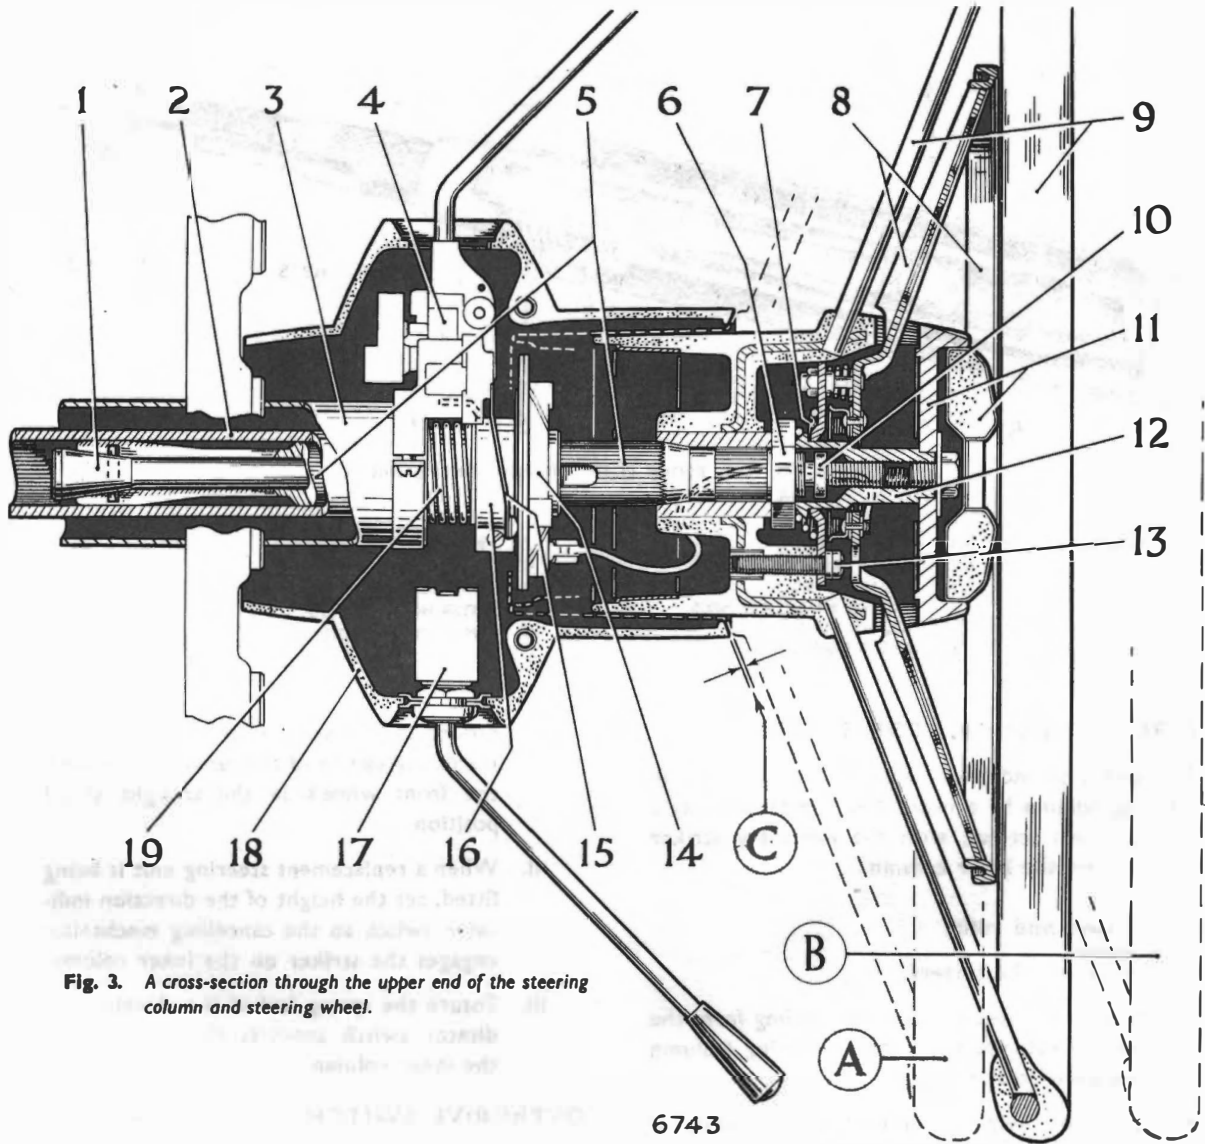

Fig. 3. A cross-section through the upper end of the steering column and steering wheel.
#### To remove and refit Fig. 3
#### Adjusting the height (Fig. 3)
1. Slacken off the steering wheel (9) by gripping the adjusting nut (11) in the centre of the steering wheel and rotating it anti-clockwise.
2. Slide the steering wheel (9) up or down the steering column to the desired height.
3. Lock the steering wheel (9) by rotating the adjusting nut (11) clockwise.
**To remove and refit (Fig. 3)**
1. Remove the horn ring assembly (8) from the steering wheel centre (9) see under "Horn Ring Assembly—To remove and refit".
2. Remove the conical spring (7) from inside the steering wheel centre by unscrewing the expander bolt extension (12).
3. Remove the steering wheel nut (6) from the steering wheel centre (9) using the special tool R.G. 197.
4. Identify the position of the steering wheel centre (9) on the splined extension piece (5) if the existing steering wheel is to be refitted and remove from the splined extension piece (5)
**TELESCOPIC STEERING UNIT (Fig. 3)**